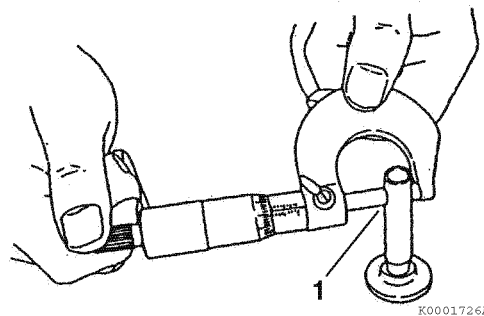

Figure 6-121
2. Measure the outside diameter of the tappet stem (1, **Figure 6-121**). See *Tappet* on page 6-19 for the service limit.